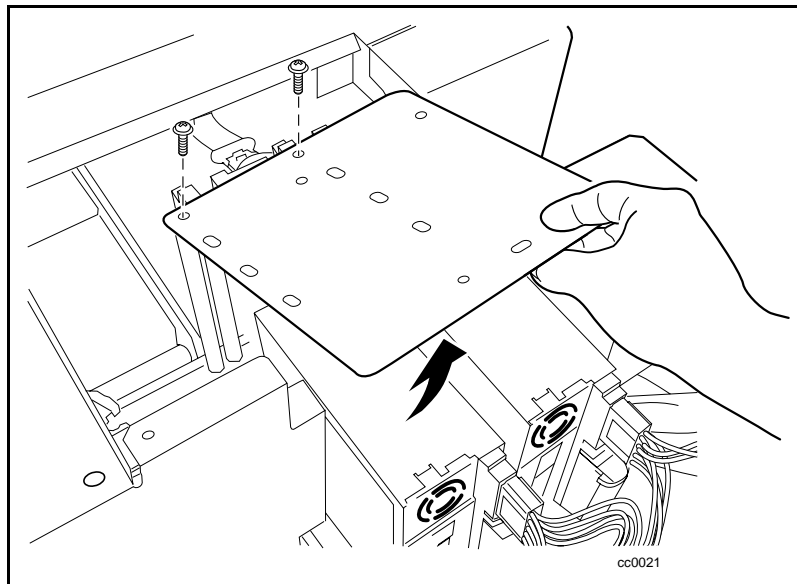

Figure 5-11. Removing the upper drive mounting plate
5. Remove the two upper drive mounting plate screws (see Figure 5-11).
6. Lift out the upper drive mounting plate (see Figure 5-11).
- Replace the upper drive mounting plate, and tighten the two retaining screws (see Figure 5-11).
2. Remove the upper drive mounting plate (see Figure 5-11).
6. Replace the top drive mounting plate (see Figure 5-11).